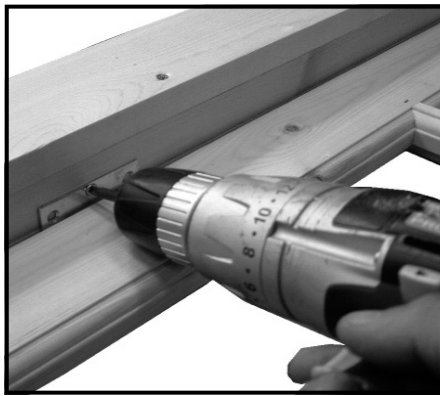

Fig C3
8. Make a visual judgement to set an even gap top/bottom of the doors and secure each hinge with 1x25mm screws (fig C3). Ensure the hinges are tight against the face of the doorframe.